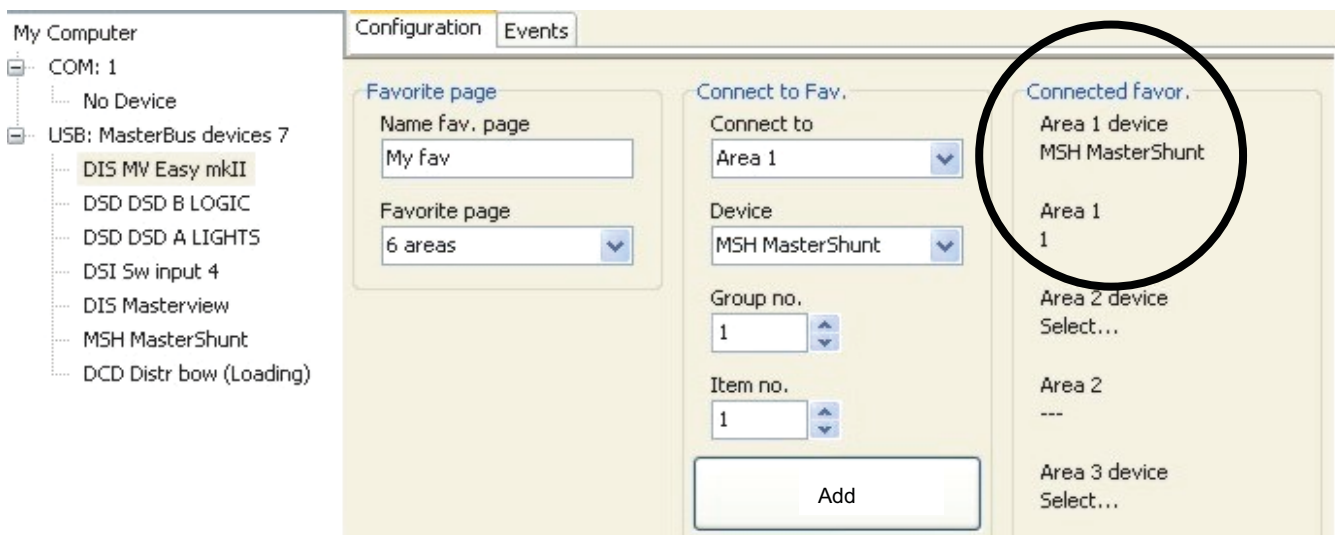

Figure 15: Favourites page configuration
See figure 15. The item selected is being shown under *Connected favor.* The *Area 1 device* is the MSH MasterShunt. The 1 under Area 1 is the *Index*. It shows the item you added is available and the connection with the device is present. You can check the index by selecting the menu of the according device and mouse over the item (in this example the MSH MasterShunt: group 1 is Monitoring and item 1 is the State of Charge).